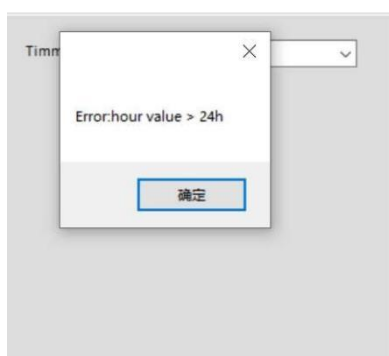

Figure 15
- ① All hour must ≤ 24 Hrs (If the All hour is set to 25 hours, an error will appear as shown in Figure 15).